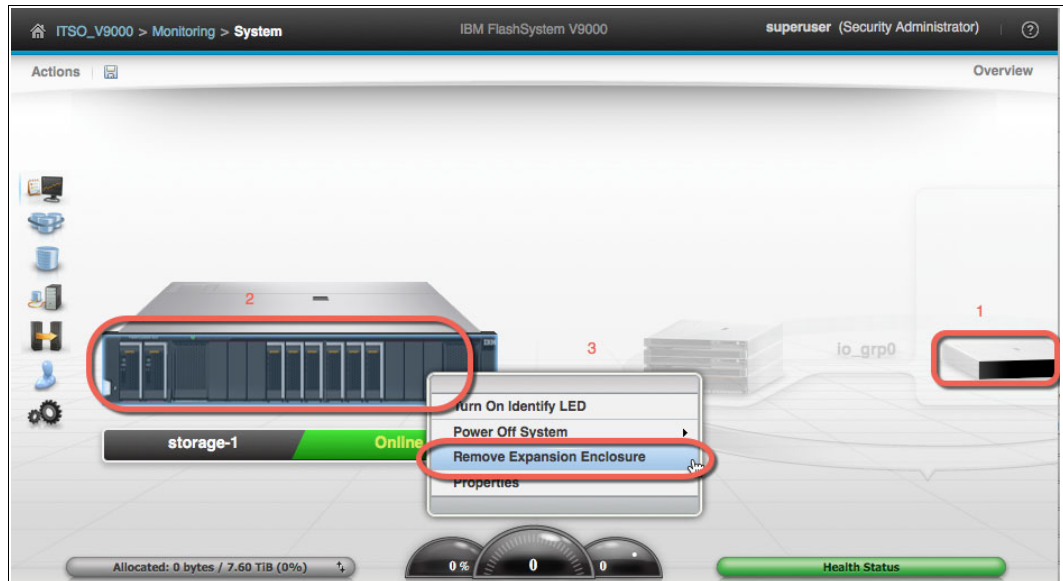

Figure 13-34 Complete removal of storage enclosure
9. Complete the removal of the storage enclosure as shown in Figure 13-34:
- a. Select the enclosure (1).
- b. Right-click over the exploded view (2).
- c. Select **Remove Expansion Enclosure** (3).